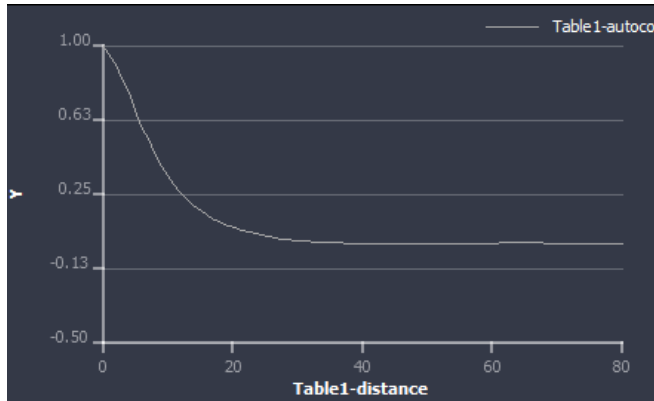

Figure 20.4: Autocorrelation versus Distance Plot
- Plot the autocorrelation versus distance. The autocorrelation decreases progressively until an asymptote is reached. The distance from which this asymptote reaches about 30 voxels is the range of the microstructure. A rule of thumb for an optimal subset size is to take about 3-4 times this value. We will use 110 voxels in this study (see Figure 20.4).